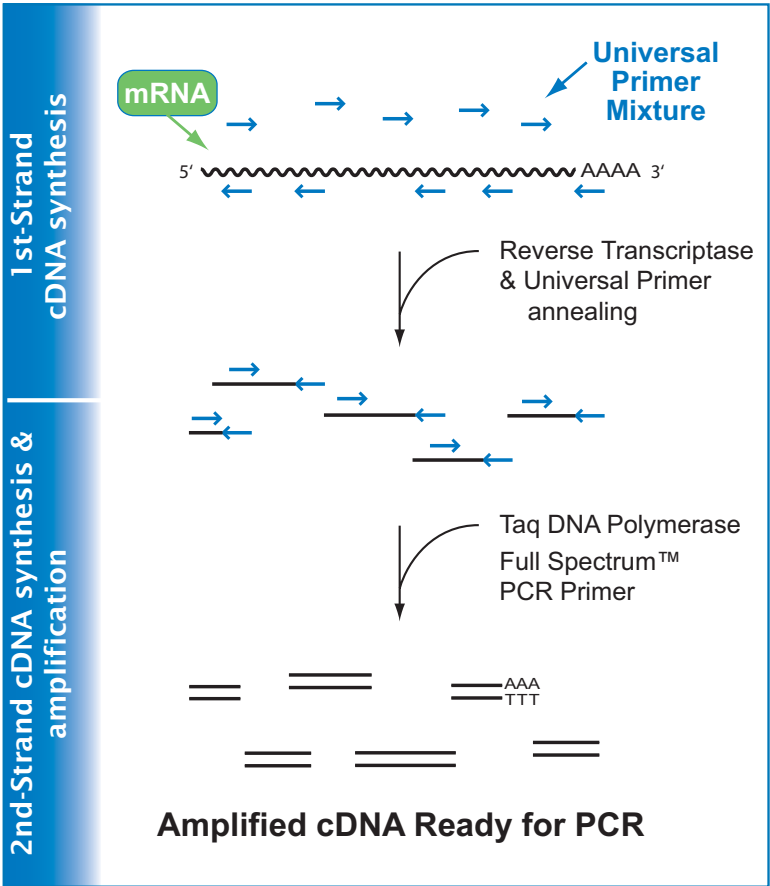

Fig. 4. Full Spectrum™ RNA Amplification Procedure
- (3) Maintain complete mRNA sequence even from degraded RNA
- (4) Excellent results using degraded RNA from formalin-fixed, paraffin-embedded (FFPE) tissue samples
- (5) A true one-tube approach that does not require purification and provides you with amplified template in less than 3 hours (Fig. 4 in section I.C)